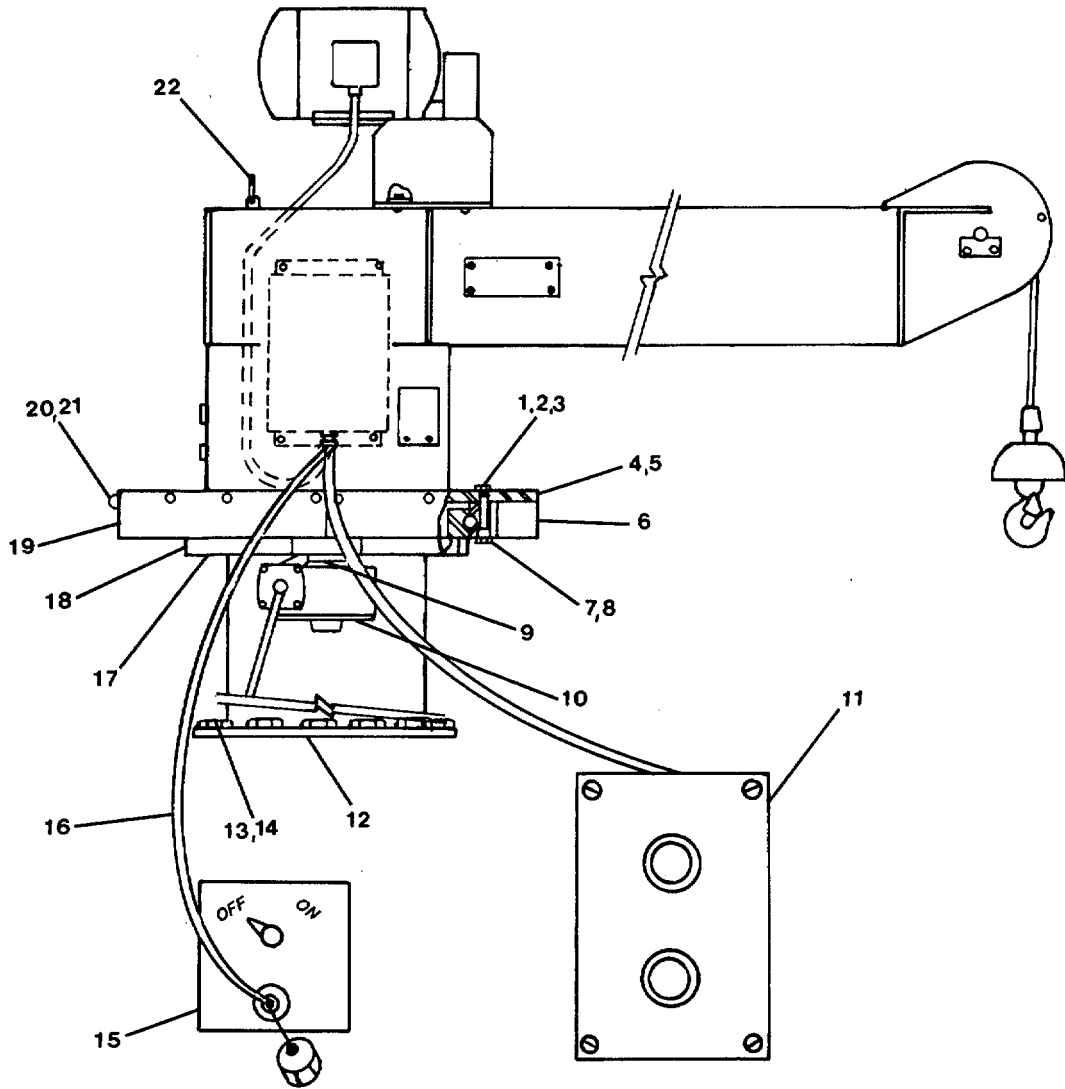

FIGURE 3-186. *Replace/Repair Crane Assembly.*
**3-197. Replace/Repair Crane Assembly. (Figure 3-186)****This task covers:**